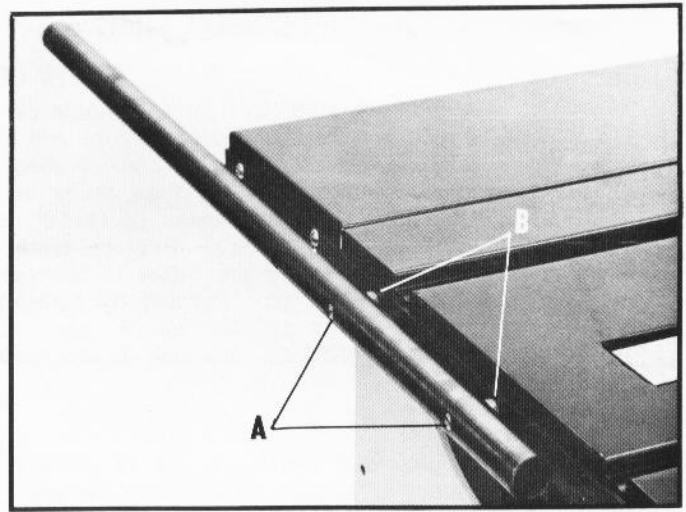

Fig. 13
2. Install the plain guide rail on the rear of the saw table using the two special screws (A) and two small spacers (B) provided, as shown in Fig. 13. With the guide rail extending to the left of the table, insert each screw thru the guide rail, small spacer, wing support bar, table flange and thread it into the reinforcing bar. Tighten all screws going into the reinforcing bar.